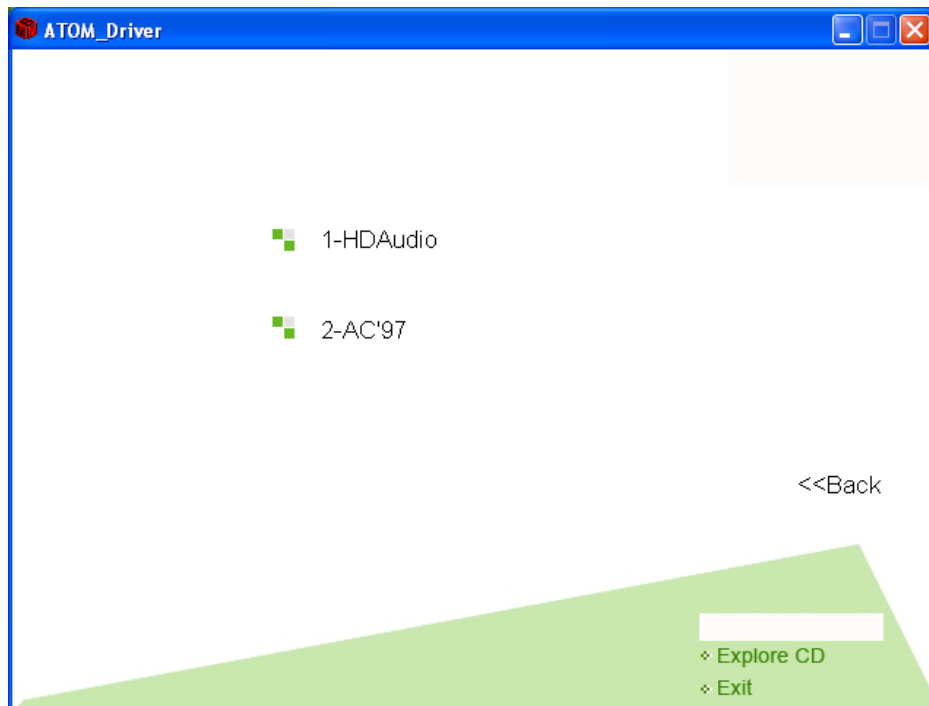

Figure 7-21: Audio Driver Options
Step 3: The screen in Figure 7-21 appears.
Step 1: Select "1-HDAudio" in Figure 7-21.
Step 1: Select "2-AC'97" in Figure 7-21